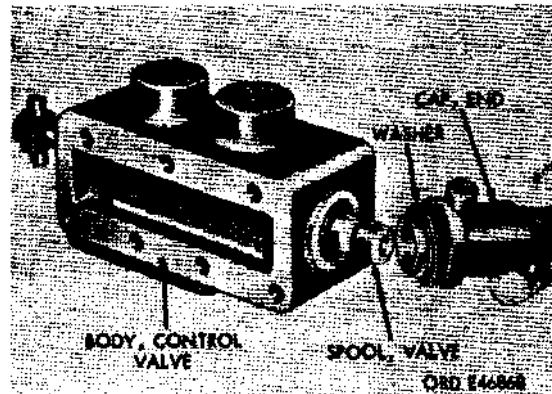

Figure 99. Remove control valve end cap from control valve body
- (b) Remove the control valve end cap and washer (fig. 99) from control valve body.
- (3) Remove the control valve spool.
- (3) Install control valve end cap.
- (a) Position washer on end cap. Install end cap over end of valve spool (fig. 99) and tighten end cap securely to control valve body.